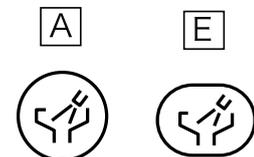

Fig.3-5 Bowl Flush Switch
**③ Bowl Flush Switch (Fig.3-5) [A] [E]**